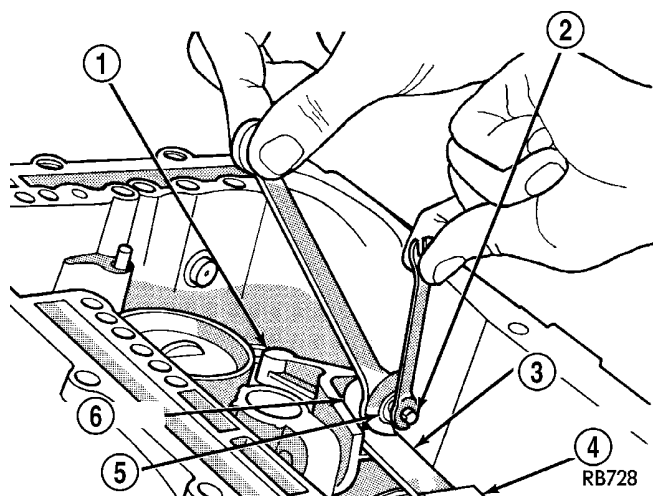

Fig. 11 Loosen Low/Reverse Band
(12) Loosen low/reverse band lock nut and adjusting screw to facilitate strut removal (Fig. 11).